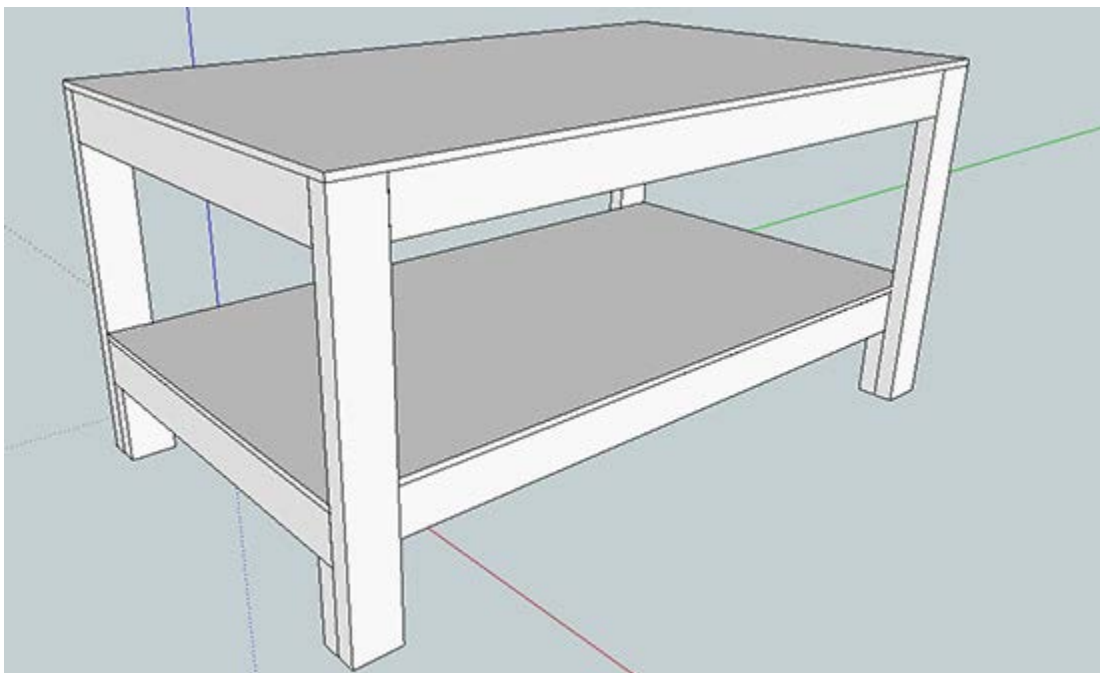

Figure 7: Plywood Attached
9. Using glue and the 1" long wood screws, secure the top and bottom plywood sheets to the frame (Figure 7).